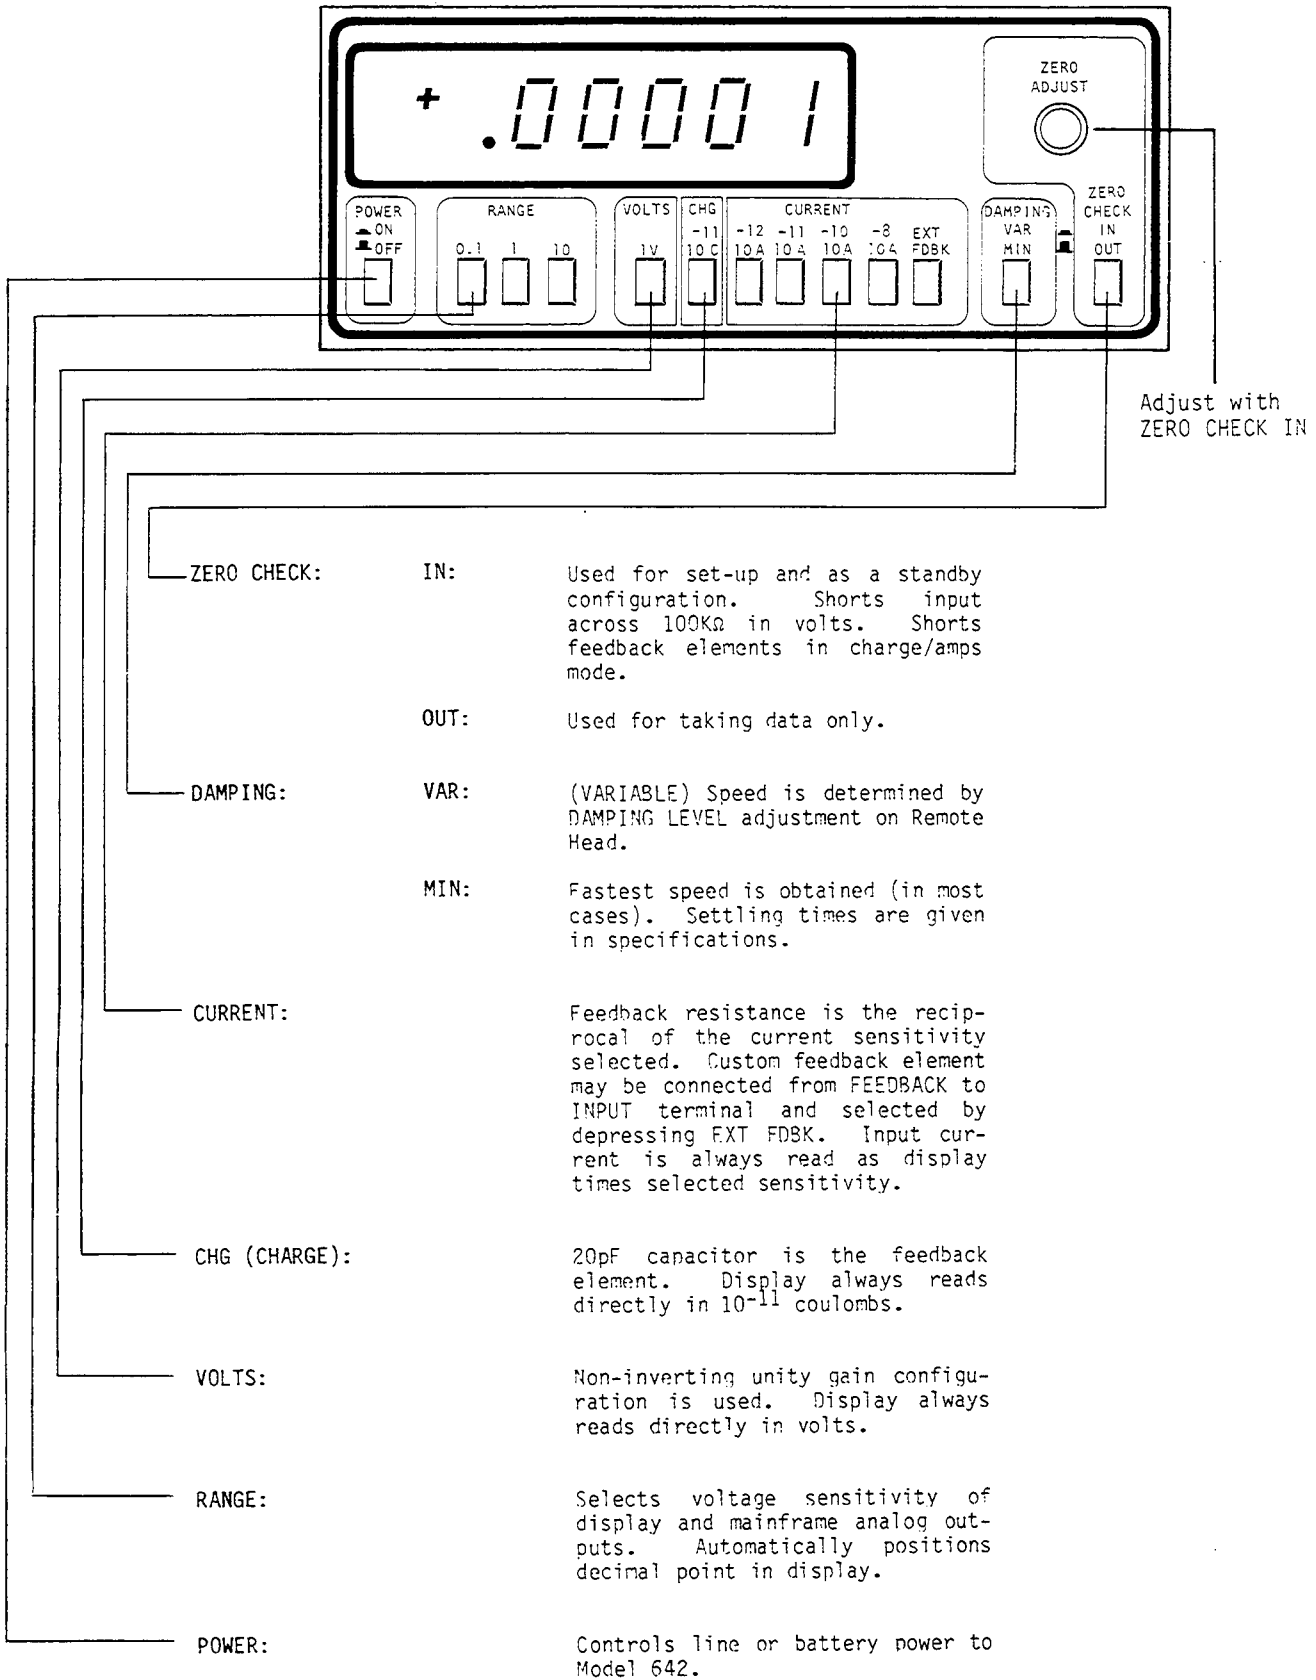

FIGURE 2-1. Summary of Mainframe Front Panel Controls.
2-17. The mainframe front panel controls are shown in Figure 2-1. A brief description of the function and use of each control is also included in this illustration.
2-37. The ZERO CHECK pushbutton and ZERO ADJUST knob (shown in Figure 2-1) are located on the mainframe front panel. Momentary or locking action of the ZERO CHECK pushbutton can be obtained, depending on how far the button is pressed. Pressing the pushbutton to IN position shorts the preamplifier feedback elements in current or charge mode and shorts the preamplifier input in voltage mode. During zero check in the voltage function, the input impedance is reduced from $10^{16}\Omega$ to $100K\Omega$. With the Model 642 in zero check, an input offset will be displayed and can be compensated using the ZERO ADJUST knob. In general, the instrument should be in zero check except when actually making a measurement. It is especially important that the instrument be in zero check when turning power on or changing functions. It is normal to have to re-adjust zero when changing functions.
c. Set up Mainframe Controls. Refer to Figure 2-1 and proceed as follows: